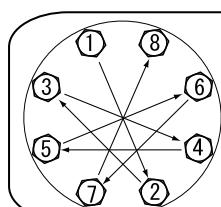

Fig.5.12
- Tighten the bolts gradually in a diagonal sequence with even torque. [Fig.5.12]